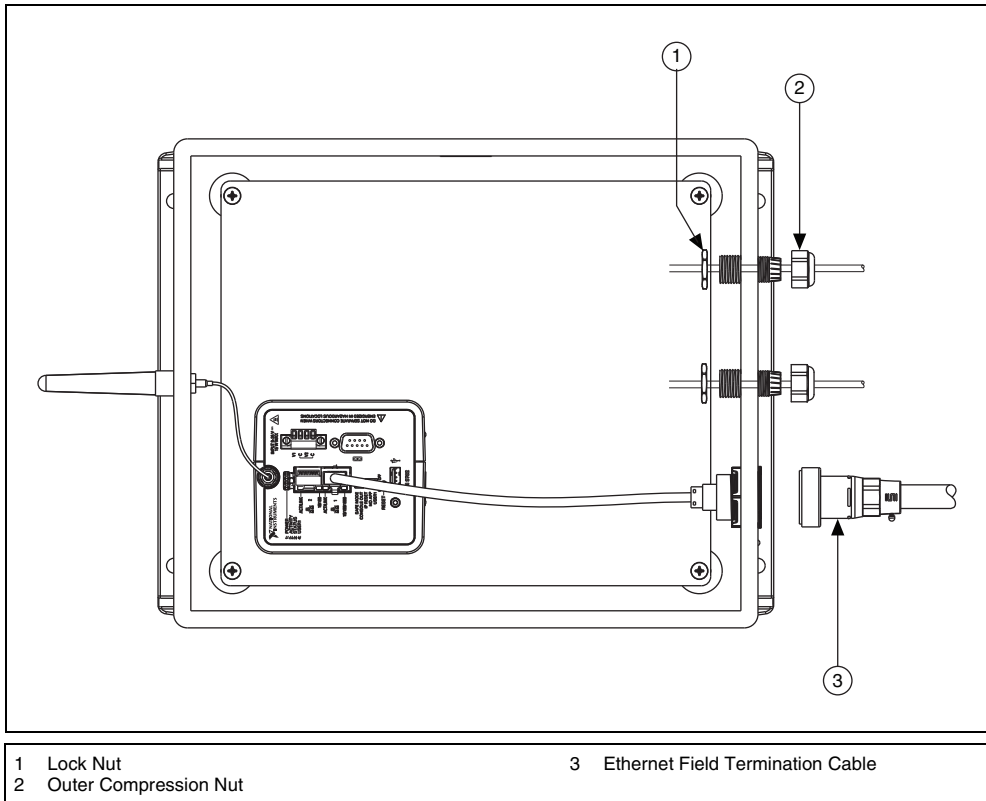

Figure 7. External Cable Installation
2. Loosely thread the included lock nut onto the gland shell as shown in Figure 7.
To install the external cables, refer to Figure 7 while completing the following steps: